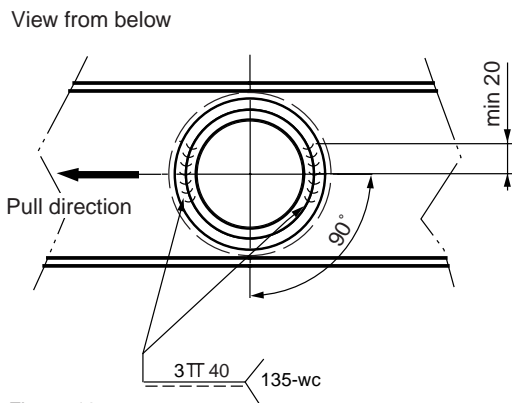

Figure 13
- Remove the allen screw (1). Use the flats on the cylinder rod (4) to stop rotation.
- During reassembly check that the sealing rings (2, 3) are not damaged. The washer with the O-ring chamfer (2) must be installed above the diaphragm, see *figure 13*. When tightening the allen screw, use the flats on the cylinder rod (4) to stop rotation. Tightening torque 50 Nm.
- Reassemble and weld the bush 26-083000 as per *figure 13*.